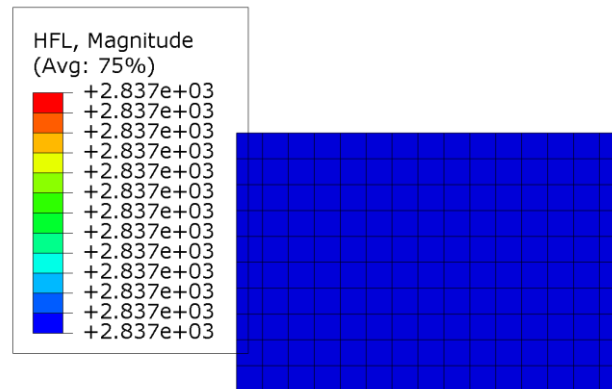

Figure L3a–2. Heat flux contour plot.
2. In the toolbox, click  (or select **Plot**→**Contours**→**On Deformed Shape** from the main menu bar) to view a contour plot of the heat flux (HFL), as shown in Figure L3a-2.